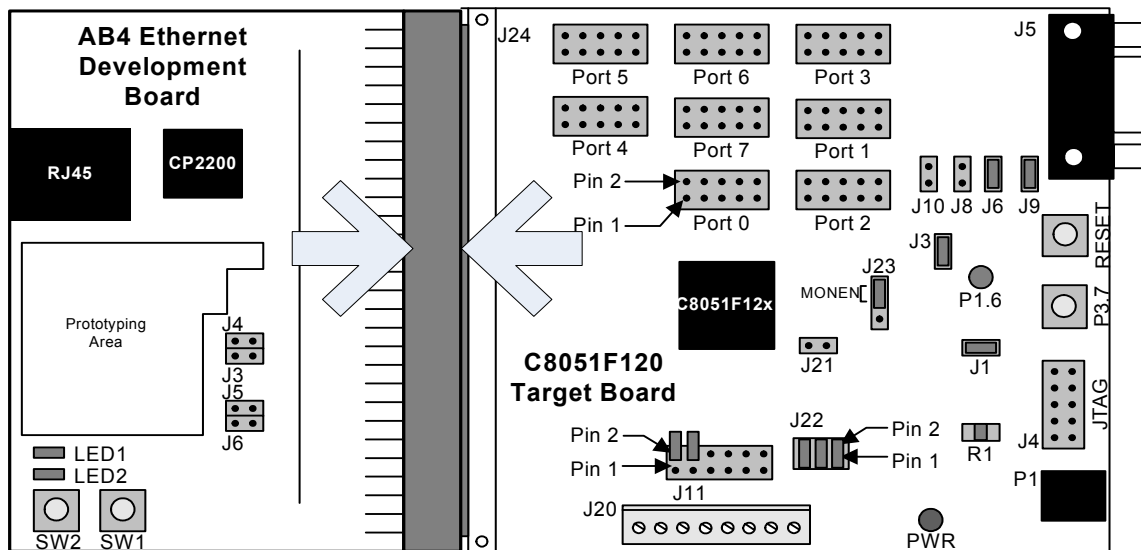

Figure 2. Embedded Ethernet Development Board Attachment
1. Connect the **AB4 Ethernet Development Board** to the **C8051F120 Target Board** at J24 (Figure 2). Apply slight pressure to ensure the mating 96-pin connectors are firmly connected.